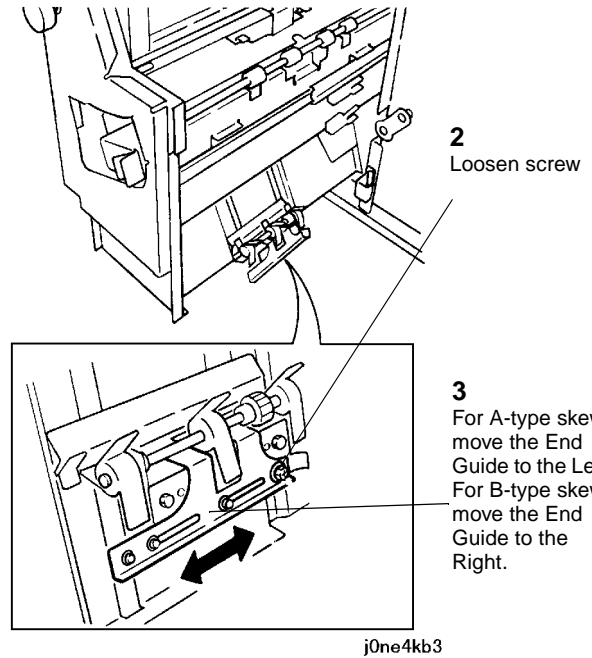

Figure 3 Adjusting the Fold Skew
2. Adjust the Booklet skew (Figure 3).